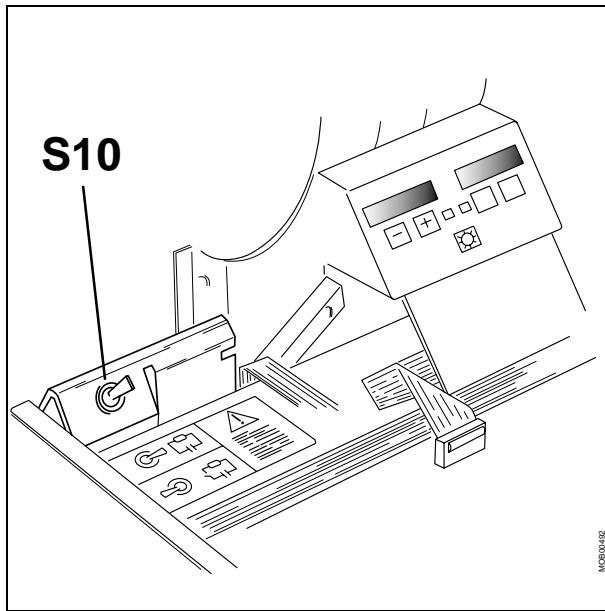

Fig. 1
- Discharge the capacitor bank with S10 (D7) (Fig. 1).